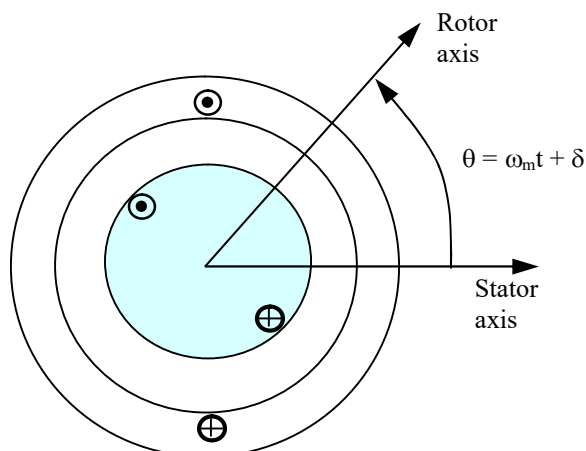

Figure Q1(c)
- (c) An elementary two-pole cylindrical rotating machine with a uniform air gap is shown in Figure Q1(c). The mutual inductance between the rotor and the stator is given by